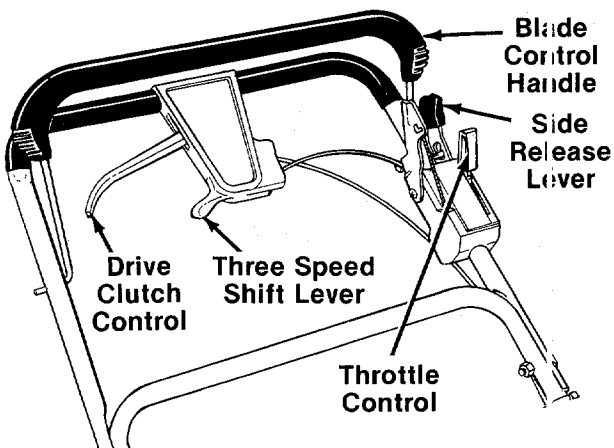

FIGURE 18.
The throttle is located on the left side of handle. It controls engine speed. See figure 18.
Squeezing the drive clutch control engages the drive mechanism to the rear wheels. Releasing the clutch control stops the rear wheels from driving. Release the drive clutch control to slow down when negotiating an obstacle, making a turn or stopping. See figure 18.
To engage the blade, pull the side release lever away from the unit. See figure 18. Pull the blade brake/clutch control handle against the upper handle. Release side lever.
The three speed shift lever is located on the drive clutch control housing on the upper handle. See figure 18. This lever is used to select the operating speed of the mower. Release the drive clutch control and stop the mower before changing speeds.
- To engage the blade, pull the side release lever away from the unit. Pull the blade brake/clutch control handle down against the upper handle. Release the side lever. See figure 18.